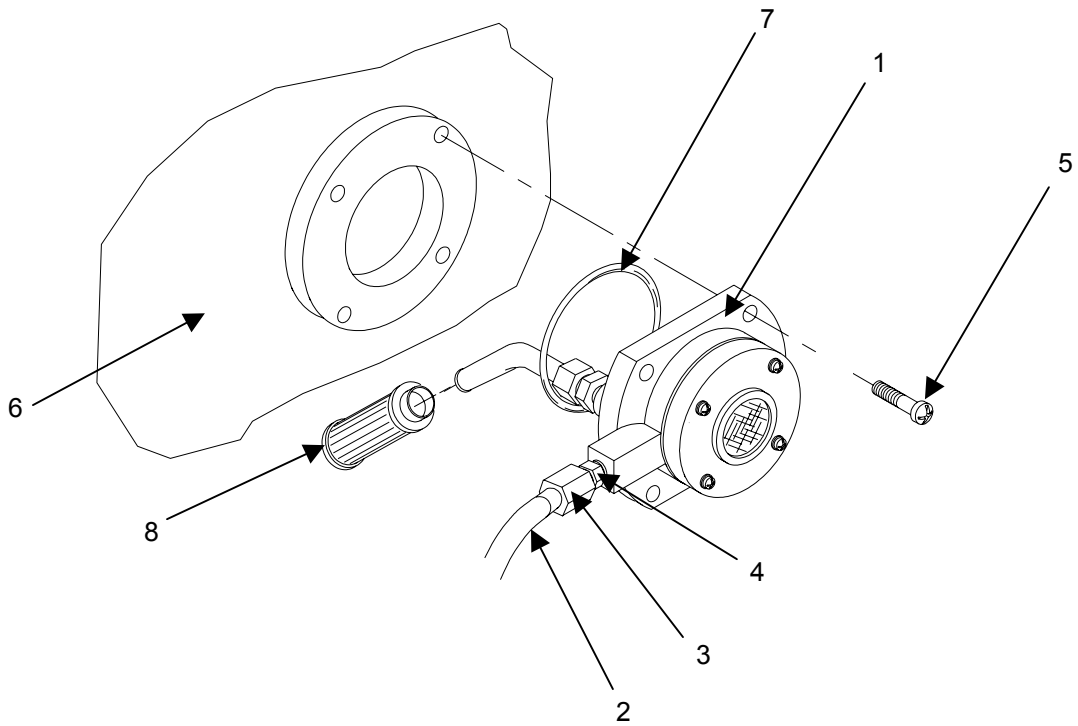

Figure 2. Replace the Fuel Regulator Assembly
1. To replace the Fuel Regulator Assembly (**figure 2, item 1**), disconnect the fuel feeder line (**figure 2, item 2**) by loosening the compression fitting nut (**figure 2, item 3**) from the fuel regulator fitting (**figure 2, item 4**).
2. Remove the four retaining screws (**figure 2, item 5**).
3. Remove the Fuel Regulator Assembly (**figure 2, item 1**) from the fuel tank (**figure 2, item 6**).
4. Discard O-ring (**figure 2, item 7**).
5. Lubricate the O-ring (**figure 2, item 7**) with a small amount of clean fuel. Be sure to install a new fuel filter (**figure 2, item 8**).
6. Install a new regulator assembly by installing a new O-ring (**figure 2, item 7**) between the fuel regulator (**figure 2, item 1**) and fuel tank (**figure 2, item 6**).
7. Insert the fuel regulator assembly (**figure 2, item 1**) into the fuel tank (**figure 2, item 6**) and secure with four retaining screws (**figure 2, item 5**) using a cross tip screwdriver.
8. Reconnect the fuel feeder line (**figure 2, item 2**) by tightening the compression nut (**figure 2, item 3**) to the fuel regulator fitting (**figure 2, item 4**).